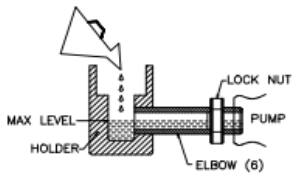

Fig.4
4. Fill oil in pump with a can. Oil should be filled either by opening breather of pump or from the lower sub assembly. (Ref. Fig.4)